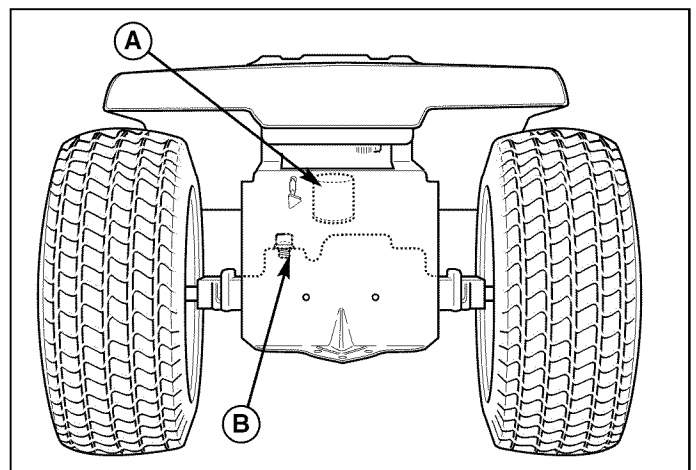

Figure 39. Hydraulic System Oil Filter
2. Remove the differential fill cap (B, Figure 39).
4. Remove and replace the hydraulic system filter (A, Figure 39). Thread the new filter onto the filter base and tighten 1/2 to 3/4 turns past finger tight.